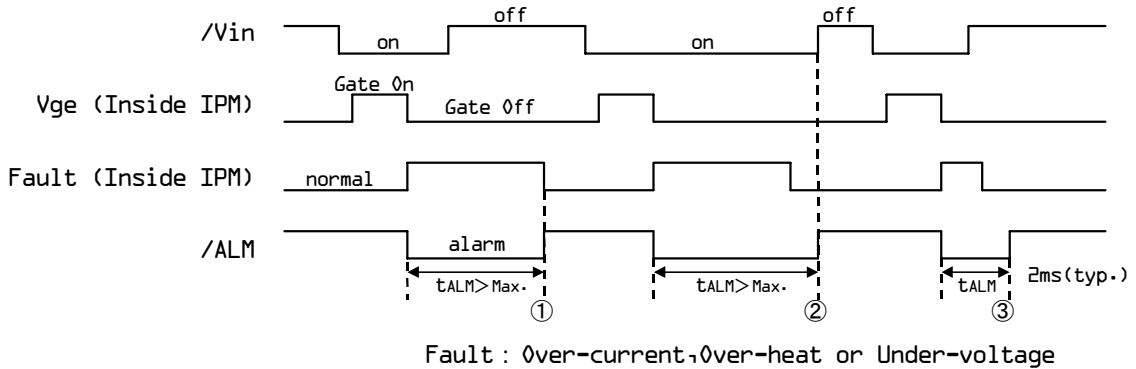

Figure 2. Input/Output Timing Diagram
Necessary conditions for alarm reset (refer to ① to ③ in figure2.)
- ① This represents the case when a failure-causing Fault lasts for a period more than t_{ALM} . The alarm resets when the input V_{in} is OFF and the Fault has disappeared.
- ② This represents the case when the ON condition of the input V_{in} lasts for a period more than t_{ALM} . The alarm resets when the V_{in} turns OFF under no Fault conditions.
- ③ This represents the case when the Fault disappears and the V_{in} turns OFF within t_{ALM} . The alarm resets after lasting for a period of the specified time t_{ALM} .